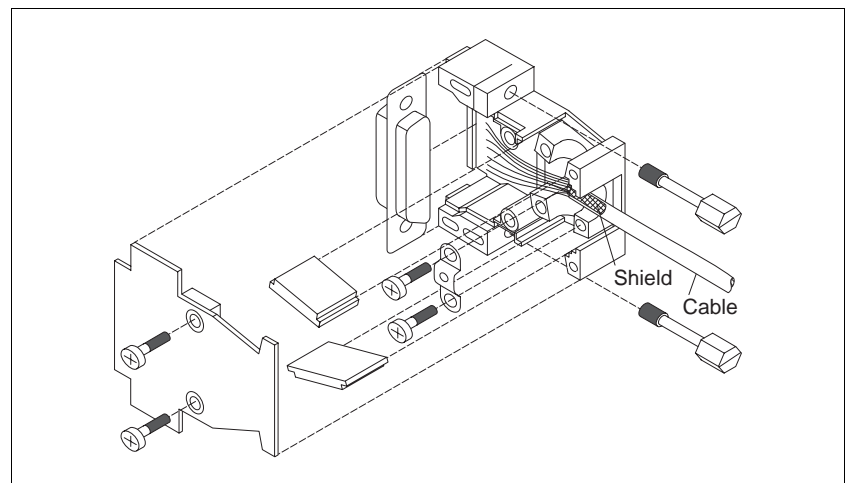

Fig. 2-19 Encoder connector assembly – device end
3. Insert two hexagon head bolts (fig. 2-19) into the connector shell.